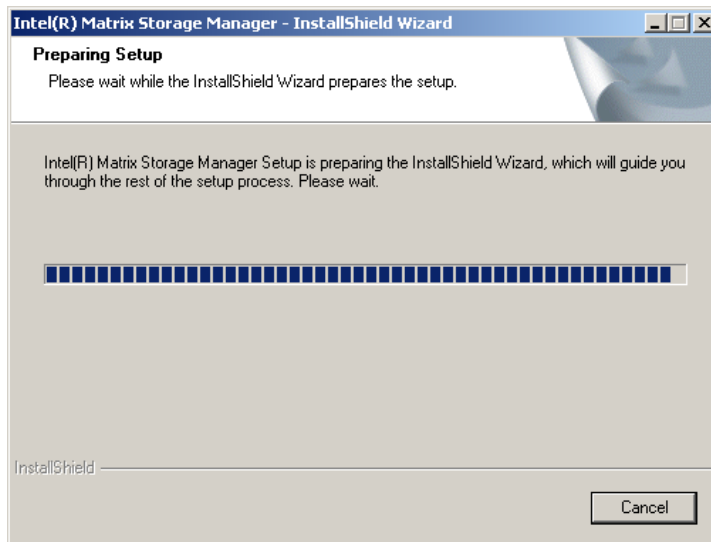

Figure 6-40: InstallShield Wizard Setup Screen
Step 5: **Figure 6-40** shows the **InstallShield Wizard** preparing to guide the user through the rest of the process.